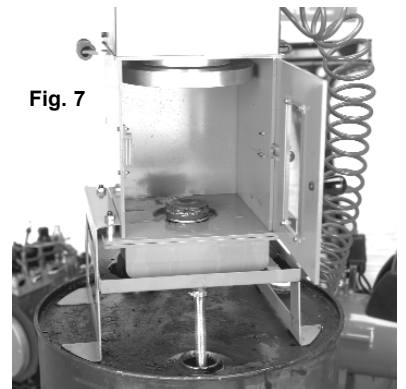

Fig. 7
- 4.1.2 Apply increasing pressure until the filter is crushed and lying in the receptacle, as shown in Fig 7.